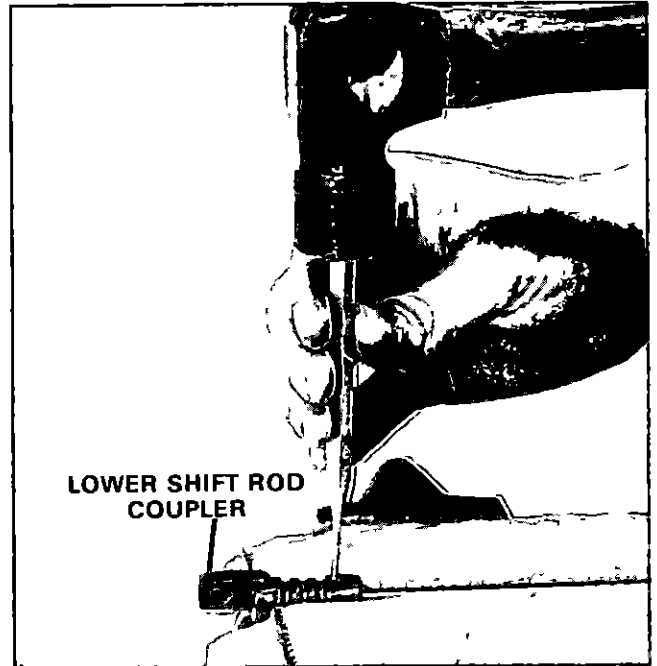

Figure 56. Removing Coupling.
- I Drive out spring pin securing gear shift rod coupling to gear shift rod and remove coupling. Figure 56.